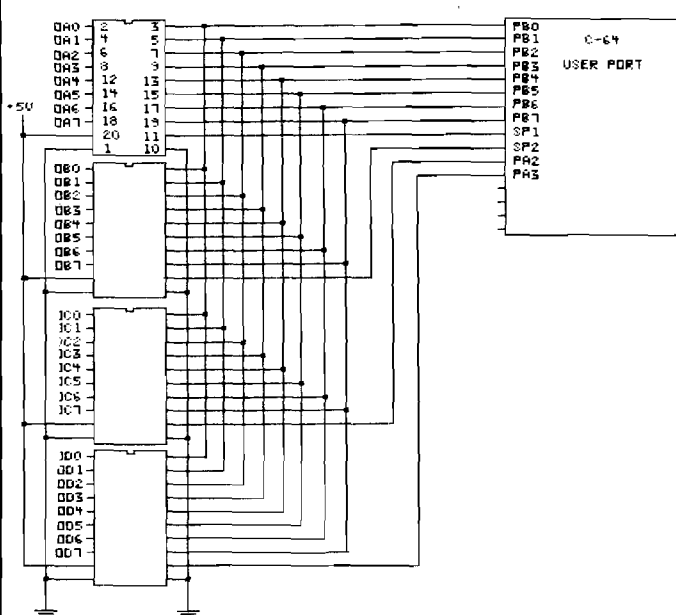
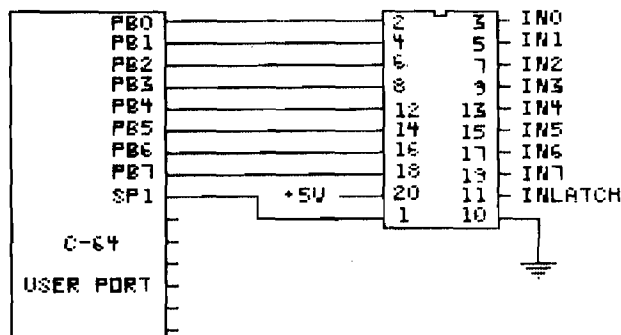

Figure 1. For 74LS374 latches selected by four unique strobes allows eight output lines to become the 32 output lines.
Figure 2. The 74LS374 latch can also be used for input if data is strobed in by external hardware and the output enable is controlled by the C-64 User Port.
Last month we examined several programming modes on the 6526 CIA used for I/O on the Commodore 64. The shift register (SR) on the CIA was examined briefly, in that we learned to toggle the SR output (SP) by setting the mode to input (SP high) or output (SP low). This toggle mode of operation is useful if you wish to output multiple bytes of parallel data on the eight Port B lines of U2 (User Port). That is, by using SP1 (U1), SP2 (U2), PA2 and PA3 (U2) as clock strobes, eight bit values can be latched in four different latches as shown in Figure 1. Simply program all the port lines (PB0-PB7) as outputs, then load the port with the output data. Pulse one of the four strobe lines and the data will be transferred to the strobed latch.
You should note a few things shown in Figure 1. First, all the 74LS374 latches are wired identically. Pin 11 is the Clock pin which causes the input data to be captured on the rising edge of the clock signal. Each clock line is driven from a different strobe output on the port, thus allowing different data to be saved in each latch. Pin 1 on each latch is the Output Enable line; these lines are all tied low to keep the latch permanently enabled (compare with Figure 2). Also note that output latches do not have to have tri-state outputs, but input latches (Figure 2) must be able to disconnect from the bus unless it is a dedicated input.
If you want to use the port for input instead of output, Figure 2 shows a tri-state latch connected for input. In this mode, the port must be programmed for input. Also, note that pin 1 (output enable) is separately controlled so the programmer can select one latch at a time to input from. The external hardware must load data into the latch by pulsing INLATCH, and it is wise to have some method of handshaking so the latch output doesn't change when the port tries to read the data. If four latches are attached, only one can be enabled at a time to avoid bus conflicts. If you use care in programming, it is possible to have (for example) two input and two output latches. This is what must happen: The input latches must be enabled *only* while they are being read, one at a time, and the port must be set for input. When outputting data, disable the output lines of the input latches, set the port for output, output the data, and clock the destination latch. If you want to go to extremes, one of the four output latches could be designated as a controller, enabling up to (for example) four inputs and four outputs, or any combination of eight 8-bit ports!